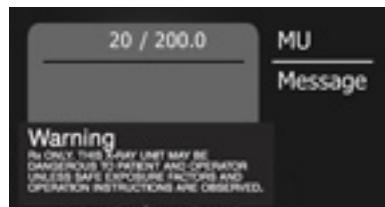

Figure 4 Monitor Unit Backup Counter
The monitor unit (MU) backup counter on the control console enables a radiotherapist to monitor the delivered dose of radiation. The backup counter (Figure 4 on page 34) is a liquid crystal display that shows:
- Delivered MU and the total planned MU of the current field or last field treated, for example, 20/200 as shown in Figure 4.